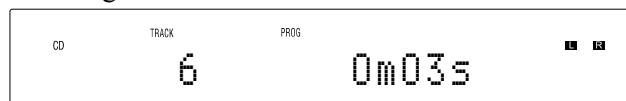

Figure 34
4. To start playback of the just entered program, press the PLAY/PAUSE ►/|| Push-button. Refer to figure 34.